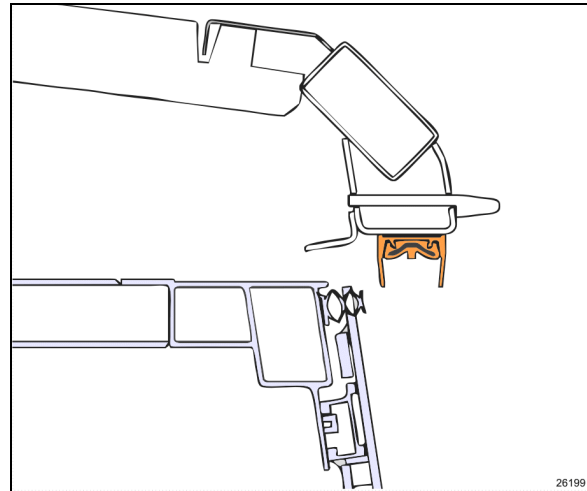

FIGURE 21: ROOM 2" INSIDE – UPPER SECTION VIEW
Do not retract slide-out room too far in. Retract just past the wiper seal. (Figure 21)
13. Using the manual override procedure paragraph 5, move the slide-out 2" inside the vehicle just so the seal becomes accessible from the outside (Figure 21).